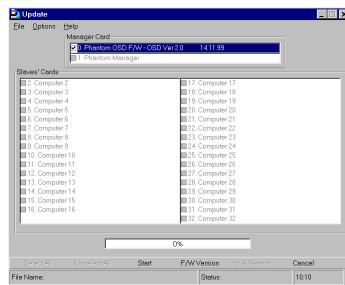

Figure 8-5 The OSD Manager option
3. In the **Manager** box, check the OSD option. See Figure 8-5 below.